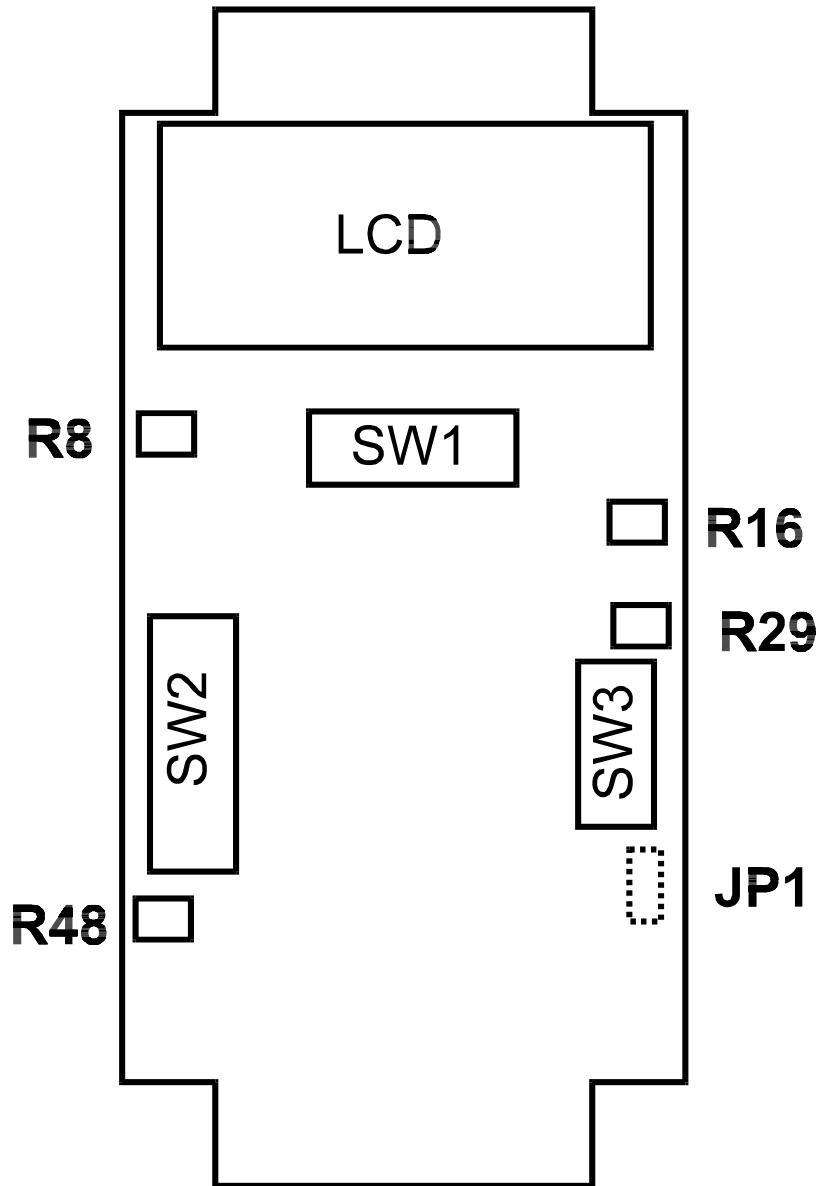

FIGURE 1
Remove the four corner screws. While holding the UUT face down in one hand, carefully separate the top and bottom housing. Place the unit into Calibration mode by shorting the header (JP1) located on the lower right side of the main circuit board (See Figure 1) while turning the UUT on. The BAT indicator will flash to indicate the UUT is in calibration mode. Verify that the UUT is in Calibration mode by observing that the BAT indicator is flashing. Place fresh batteries into the UUT before any calibration adjustments are made.
**CALIBRATION:** (See Figure 1 for all pot locations)